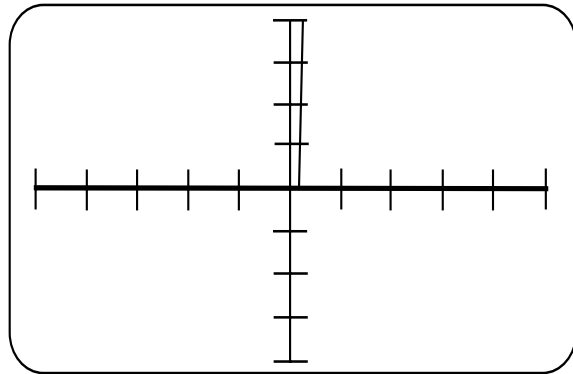

Figure 4-21
4. Selecting the **P2+** pulse output enables both conducting and non-conducting operation to be displayed. Leaving **Level** unchanged from the previous step, rotate the **Width** control to vary the pulse period. When the pulse is high, the SCR conducts. When it is low, the SCR is switched off. The signature is shown in Figure 4-21. The horizontal line corresponds to the time the pulse is low, and the vertical line to the time the pulse is high.
5. Selecting the **P2** pulse output enables both the conducting and non-conducting operation to be displayed. Leaving **Level** unchanged from the previous step, rotate the **Width** control to vary the pulse period. When the pulse polarity is positive, the resultant signature is the same as for the SCR (Figure 4-21). When the polarity is negative, the display is a mirror image of Figure Figure 4-21).